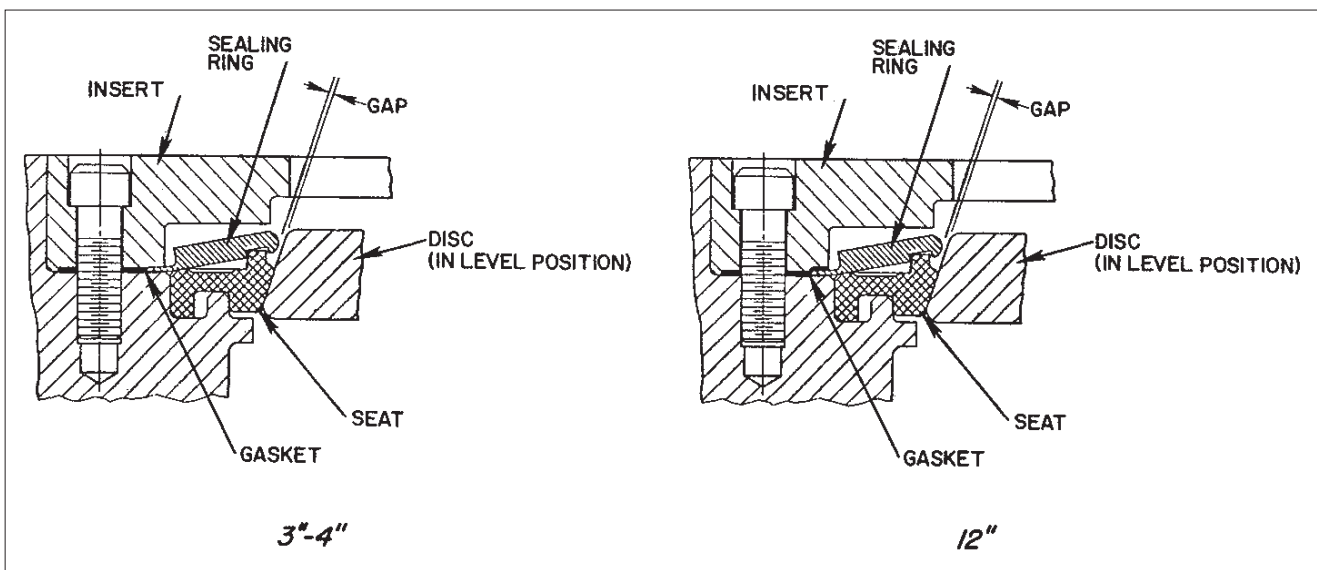

Figure 12.
11. For 3", 4" and 12" sizes, a gasket is required between the insert and body as shown in (Fig. 12). On 3" and 4" valves, the precut gasket must be placed so that the holes line up with the insert screw holes. The 12" valve uses a graphite tape gasket. This tape is installed in accordance with the following steps: